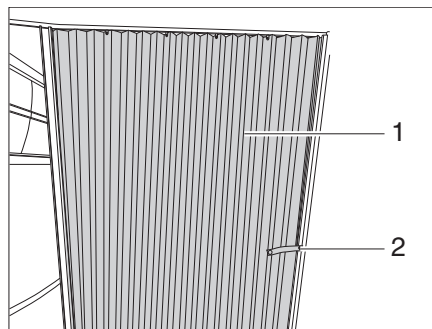

Fig. 79 Folding door
- Release the securing strap (Fig. 79,2).
- Pull the folding door (Fig. 79,1) into the closing position.
- Push the folding door (Fig. 79,1) into the open position.
- Secure the folding door with the securing strap (Fig. 79,2).